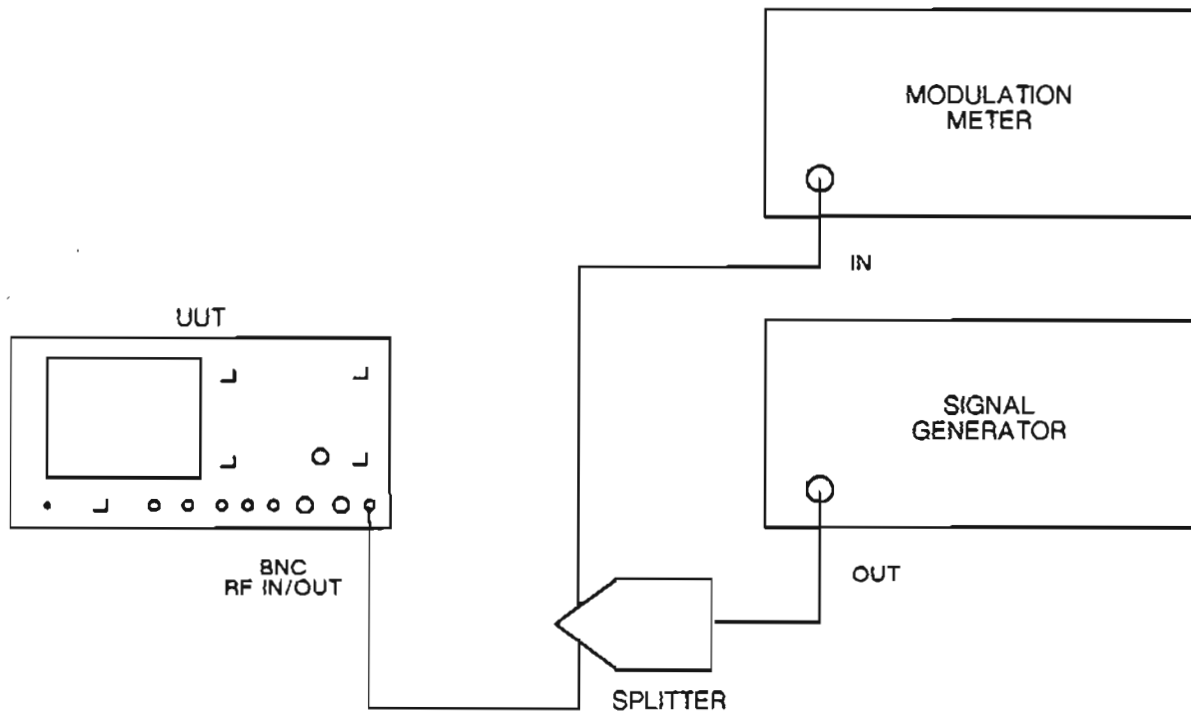

Fig. 2 Test equipment connections for oscilloscope demodulated f.m. gain performance checks.
- (1) Connect the equipment as shown in Fig. 2.
- (2) Set the u.u.t. to TX, FM, SCOPE, 0.3 - 3.4 kHz BAND PASS filter, b.n.c. input socket.
- (2) Set the u.u.t. to TX, AM, SCOPE, 0.3 - 3.4 kHz BAND PASS filter, b.n.c. input socket.
- (3) Set the signal generator to carrier frequency 100 MHz, level 7 dBm, a.m., 1 kHz internal modulation rate.
- (4) Set the modulation meter to monitor a.m., (p-p)/2, in a 0.3 - 3.4 kHz bandwidth.
- (5) Set the u.u.t. oscilloscope range to 20%/div. Adjust the signal generator depth until the waveform on the oscilloscope is shown as 80%. Check on the modulation meter that the depth limits are within 72 to 88%.
- (6) Repeat step (5) above for the remaining oscilloscope ranges and modulation depths shown in Table 3.